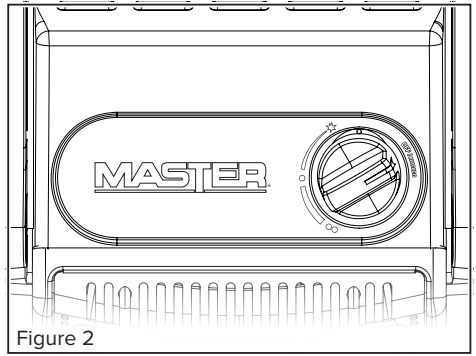

Figure 2
- Before attaching propane make sure Control Knob on heater is in “OFF” position; see Figure 2.
- For MH-09SNL-A turn Control Knob counterclockwise to “PILOT” position and depress knob to light; see Figure 2.
- After pilot lights, continue to hold Control Knob down for 30–60 seconds until heating plaques are lit and thermocouple is hot. Release knob. Knob should return to fully extended position; see Figure 2.
- After pilot lights, hold Control Knob down for 30–60 seconds until heating plaques are lit and thermocouple is hot. Release knob. Knob should return to fully extended position; see Figure 2.